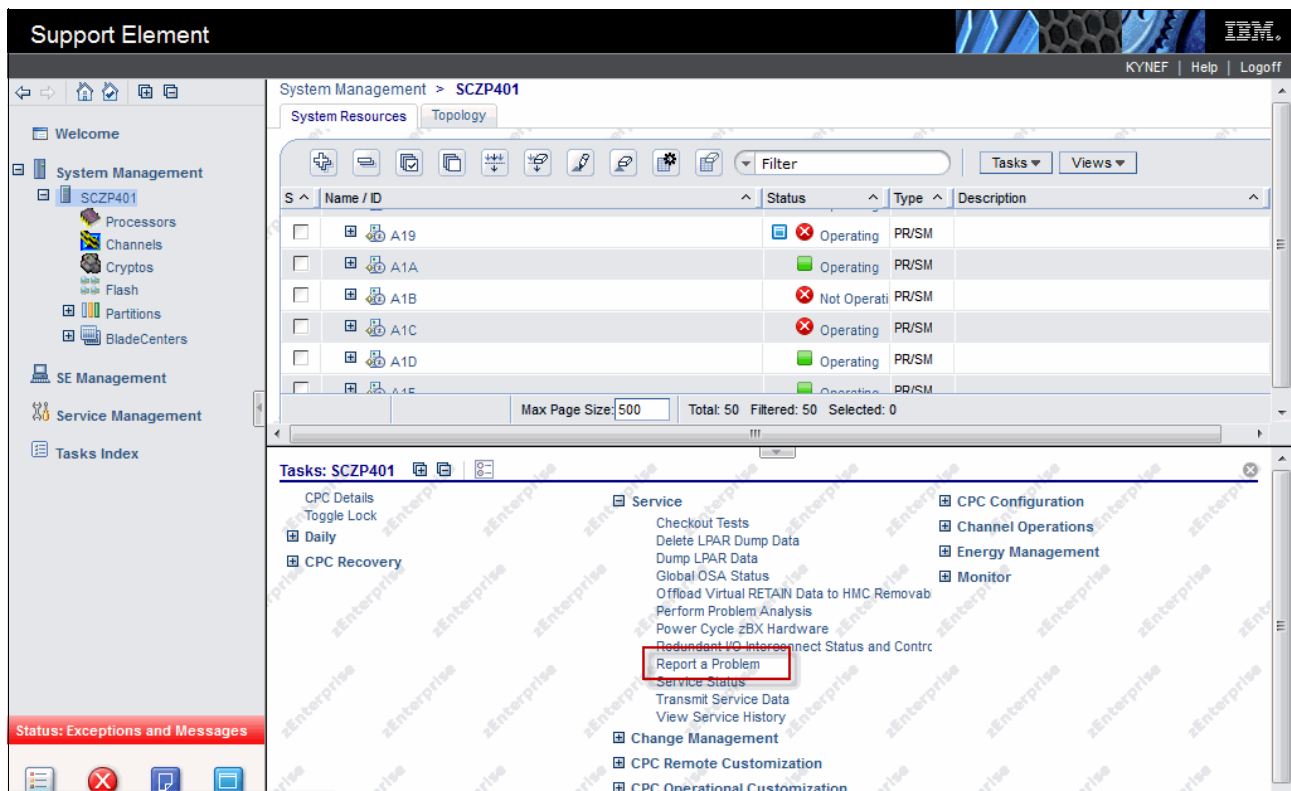

Figure 5-19 Opening a PMV
- Deselect the IBM zAware LPAR and select the CPC instead. The bottom pane will now change and look similar to that shown in Figure 5-19.